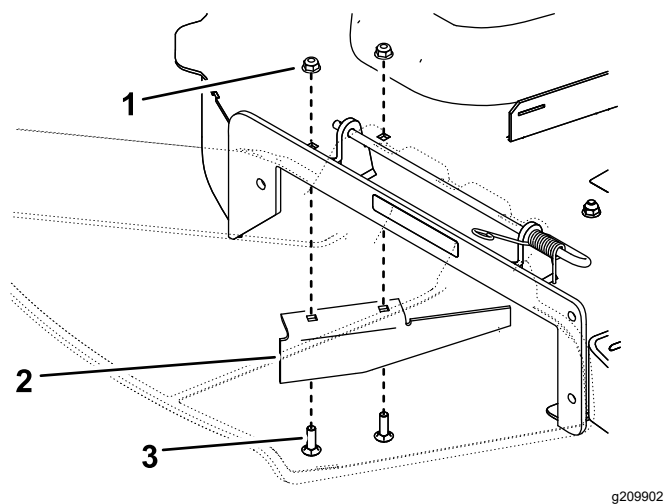

Рисунок 8
1. Remove the 2 bolts and 2 nuts securing the existing discharge baffle to the deck and remove the discharge baffle (Рисунок 8).